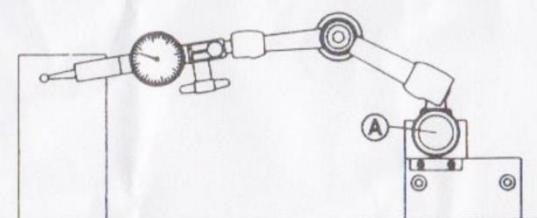

Fig. 3 NOGAFLEX in position for fine adjustment.
5. Fig3 shows Sleeve "B" rotated 90°. Tightening Screw "A" now causes the indicator to move horizontally until contacting the vertical surface